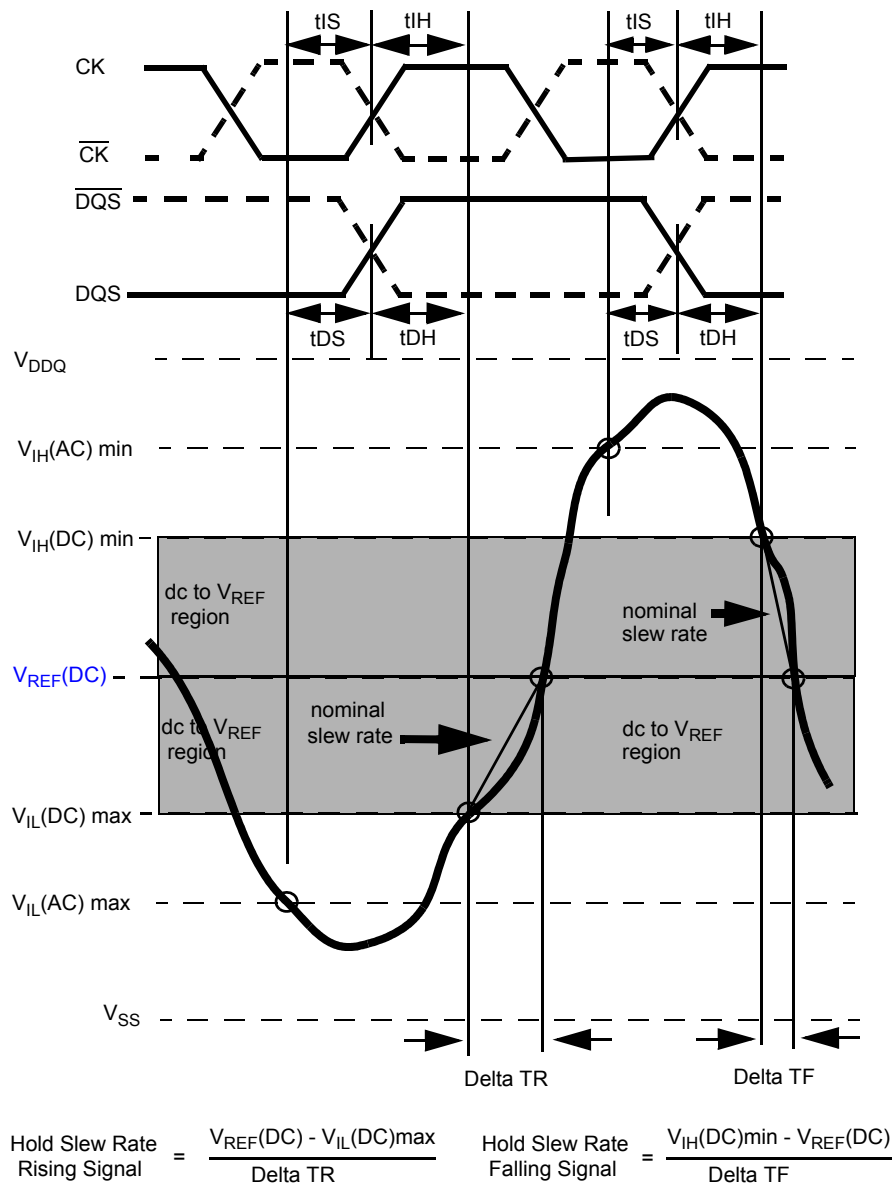
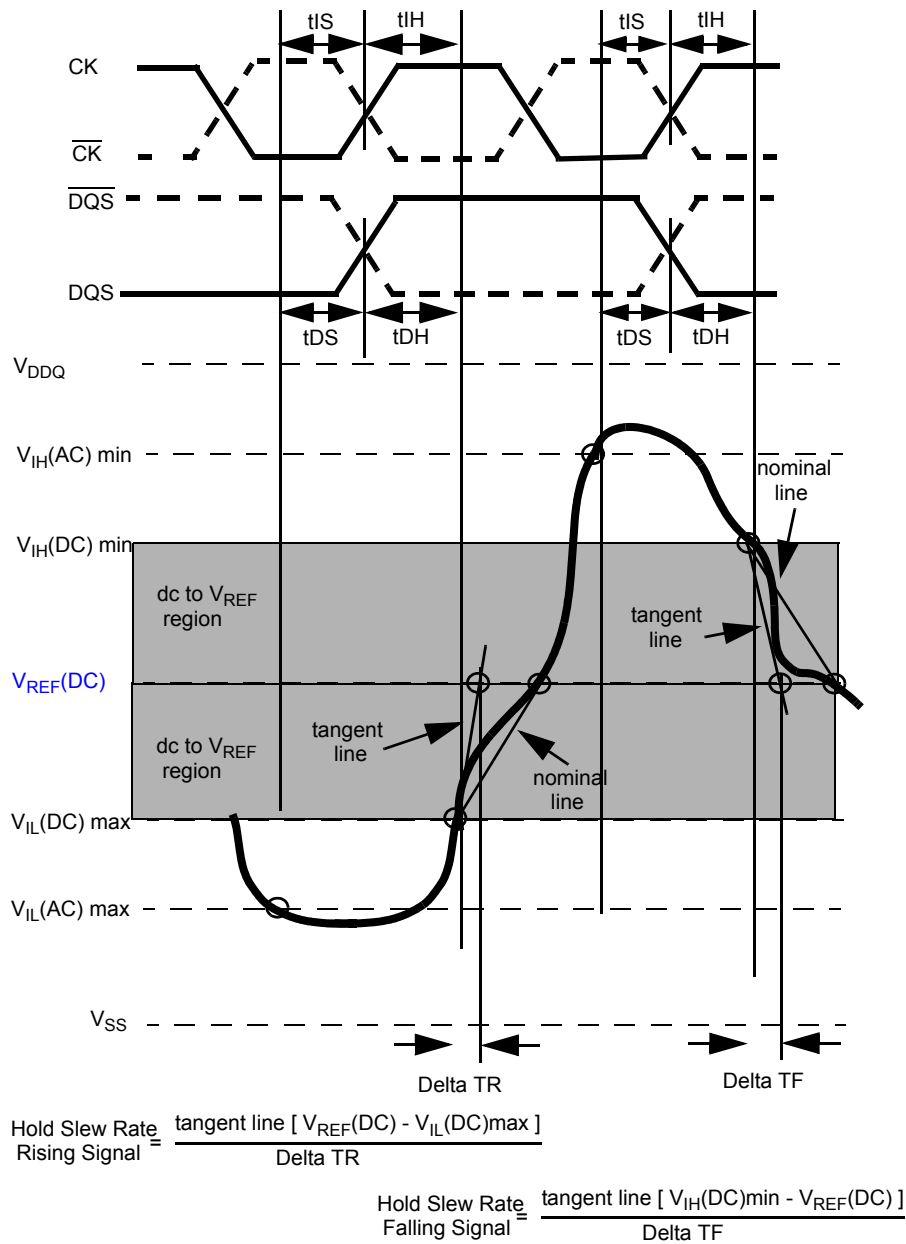

Figure 26 - Illustration of nominal slew rate for hold time tDH (for DQ with respect to strobe) and tIH (for ADD/CMD with respect to clock).
Figure 28 - Illustration of tangent line for hold time tDH (for DQ with respect to strobe) and tIH (for ADD/CMD with respect to clock)
Hold (tDH) nominal slew rate for a rising signal is defined as the slew rate between the last crossing of VIL(DC)max and the first crossing of VREF(DC). Hold (tDH) nominal slew rate for a falling signal is defined as the slew rate between the last crossing of VIH(DC)min and the first crossing of VREF(DC) (see Figure 26). If the actual signal is always later than the nominal slew rate line between shaded 'dc level to VREF(DC) region', use nominal slew rate for derating value. If the actual signal is earlier than the nominal slew rate line anywhere between shaded 'dc to VREF(DC) region', the slew rate of a tangent line to the actual signal from the dc level to VREF(DC) level is used for derating value (see Figure 28).